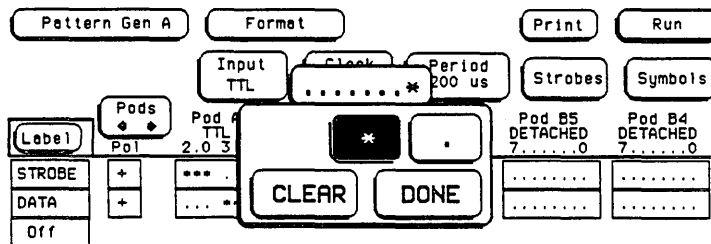

Figure 3-6. Data Channel Select
- g. Select data output channel 0 as shown in figure 3-6. Touch **Done**.